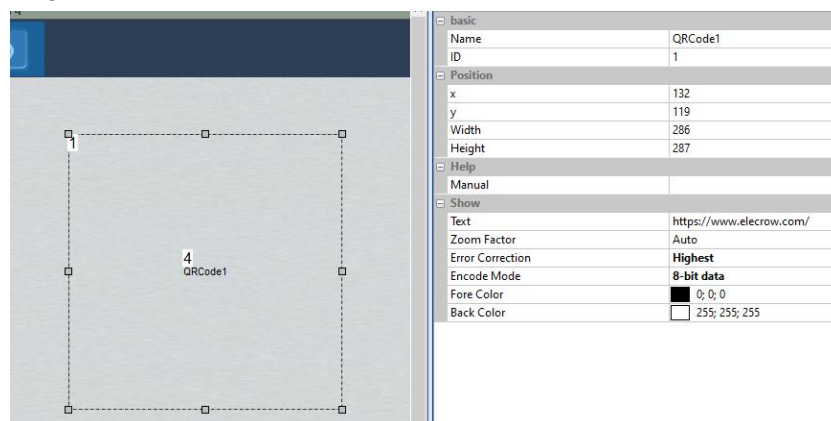

Figure 2-34 QR code display settings
1. As shown in Figure 2-34, click the QR code control icon at navigation (1) and place it in the area of (2) of the screen.
2. In the Properties window text (3), enter: <https://www.elecrow.com/>
4. If the user needs to update the current QR code content of the microcomputer, send the corresponding command. Suppose the picture in Figure 2-34